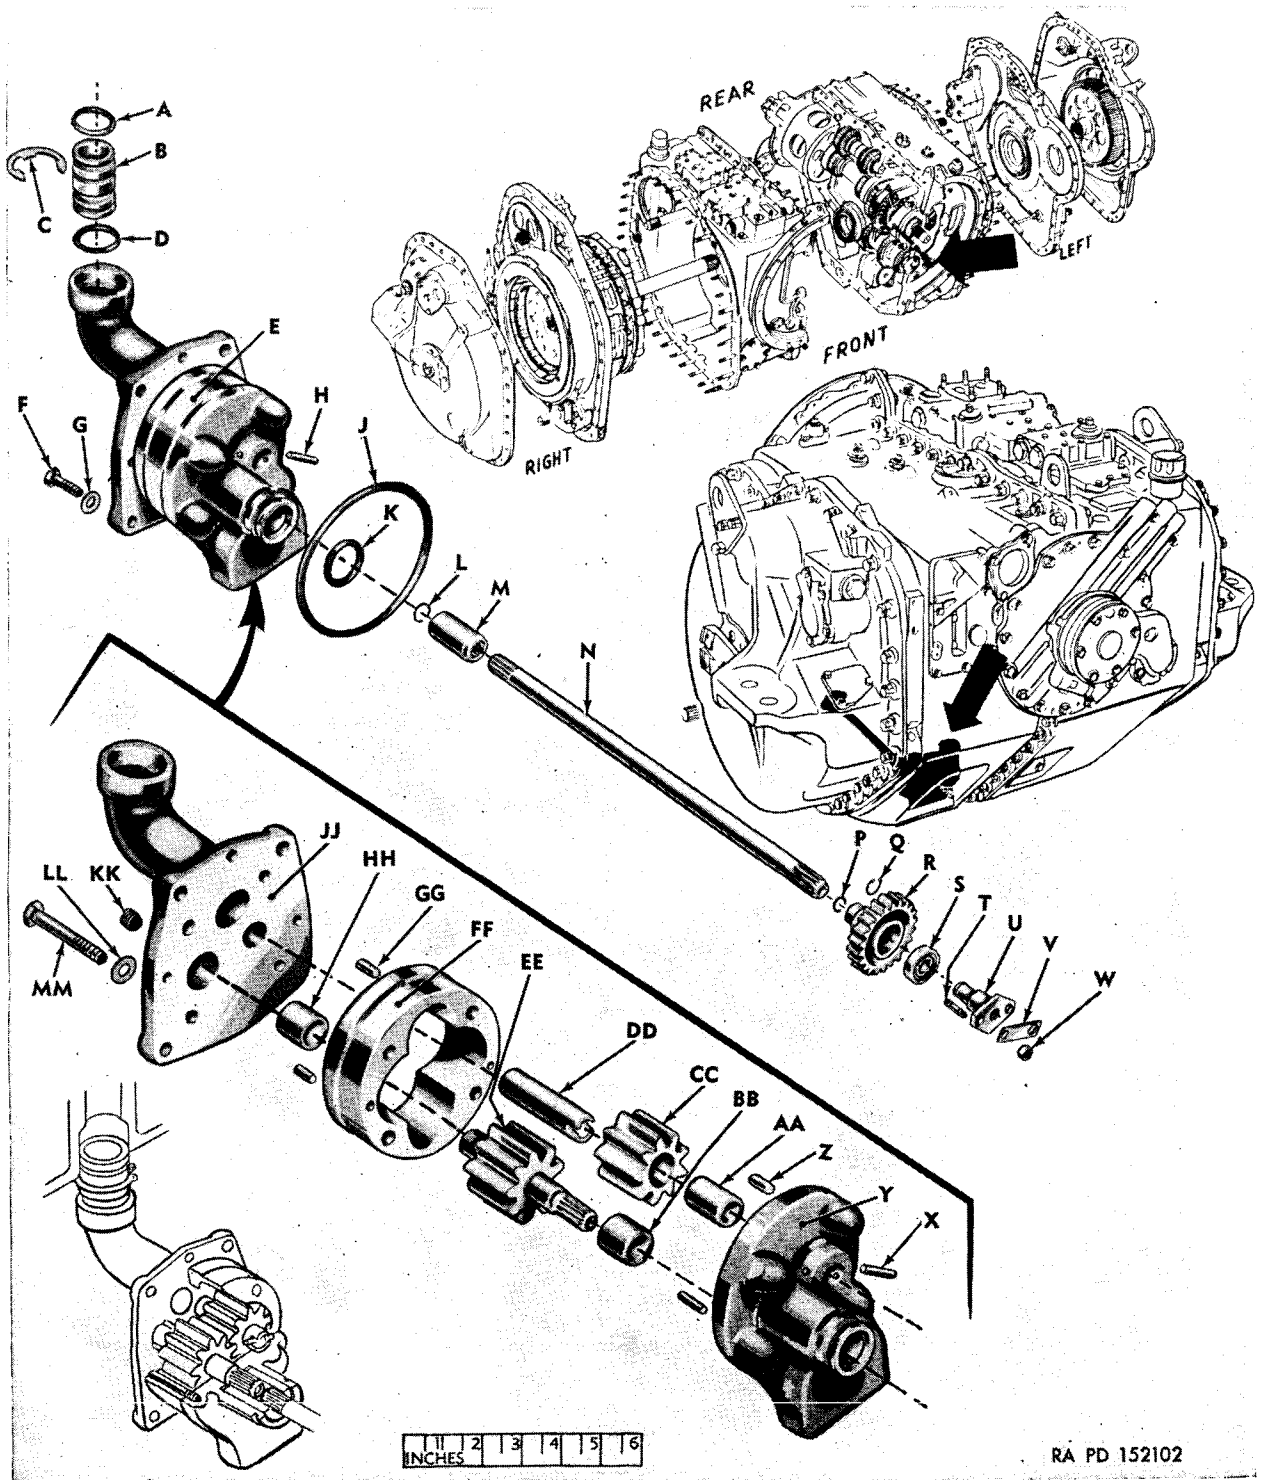

Figure 363. Input pressure pump assembly—exploded view.
b. BUSHINGS (fig. 363). If the bushing in the pump cover or in the base is defective, it must be cut out. If the bushing in the idler gear is defective, press it out. Install new bushings with an arbor press. Ream the bushings to the correct size (par. 106). If the pin in the base is defective, it may be driven out and a new pin installed. Do not remove dowel pins unless they are defective. Refer to paragraph 58l for the inspection of the input-pressure-pump drive gear.